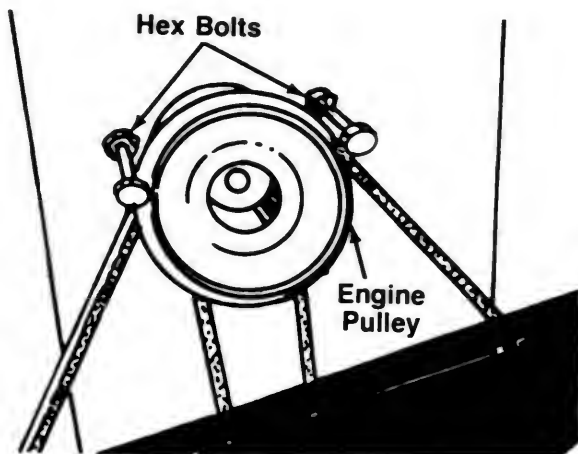

FIGURE 23.—Model 754F
NOTE: Figures 23 through 25 and 27 through 29 are shown with the unit tipped up for clarity. It is not necessary to tip the unit to remove the belts.
3. Remove the hex bolts (belt keepers) from the engine pulley belt guard. See figure 23.
NOTE: When reassembling, make certain hex bolts are assembled in the same locations from which they were removed. See figure 23.